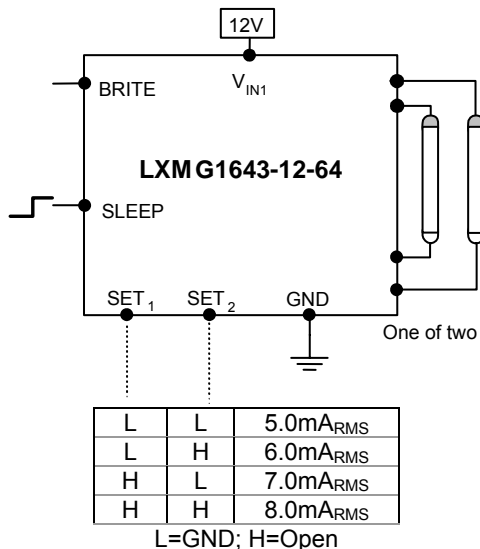

Figure 2 – Max Output Current
- Use the SET₁ and SET₂ (see Figure 2) inputs to select the desired maximum output current. Using these two pins in combination allows the inverter to match a wide variety of panels from different manufactures. Generally, the best lamp lifetime correlates with driving the CCFL at the manufactures nominal current setting. However the SET₁ and SET₂ inputs allow the user the flexibility to adjust the current to the maximum allowable output current to increase panel brightness at the expense of some reduced lamp life.